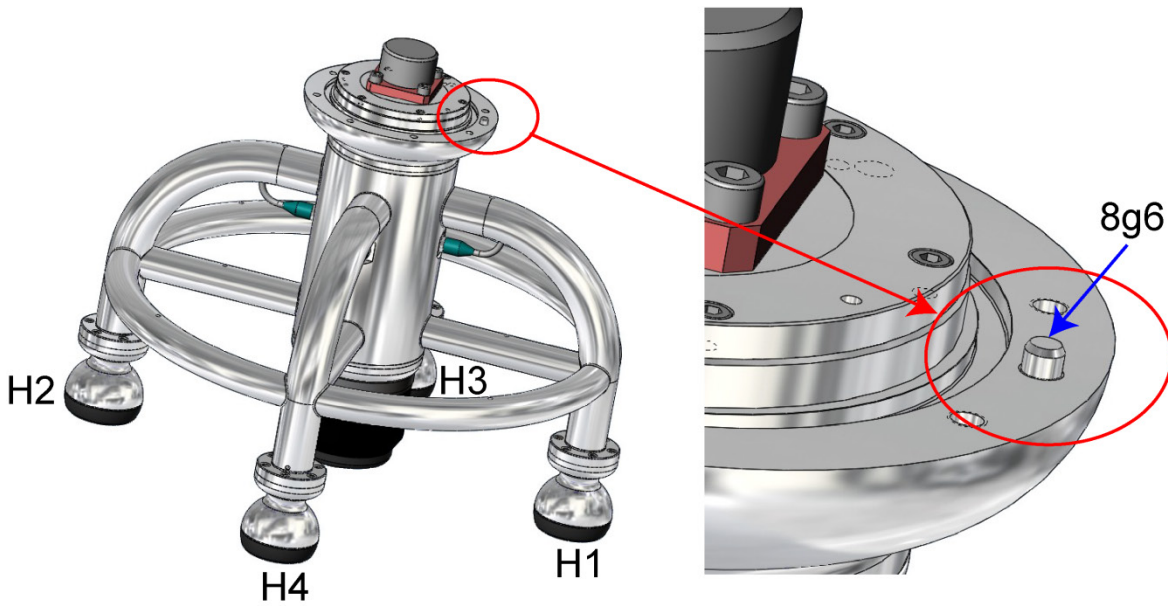

Figure 8 – Centering pin of the deployable antenna
- One centering pin (8g6 diameter) for the deployable array (see Figure 8)